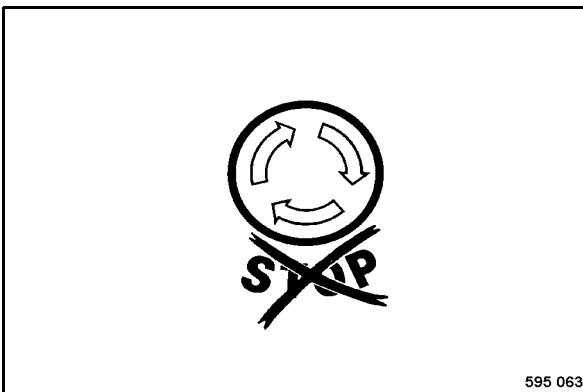

Fig. 49
- Check, whether the emergency stop switch (Fig. 49) is unlocked.